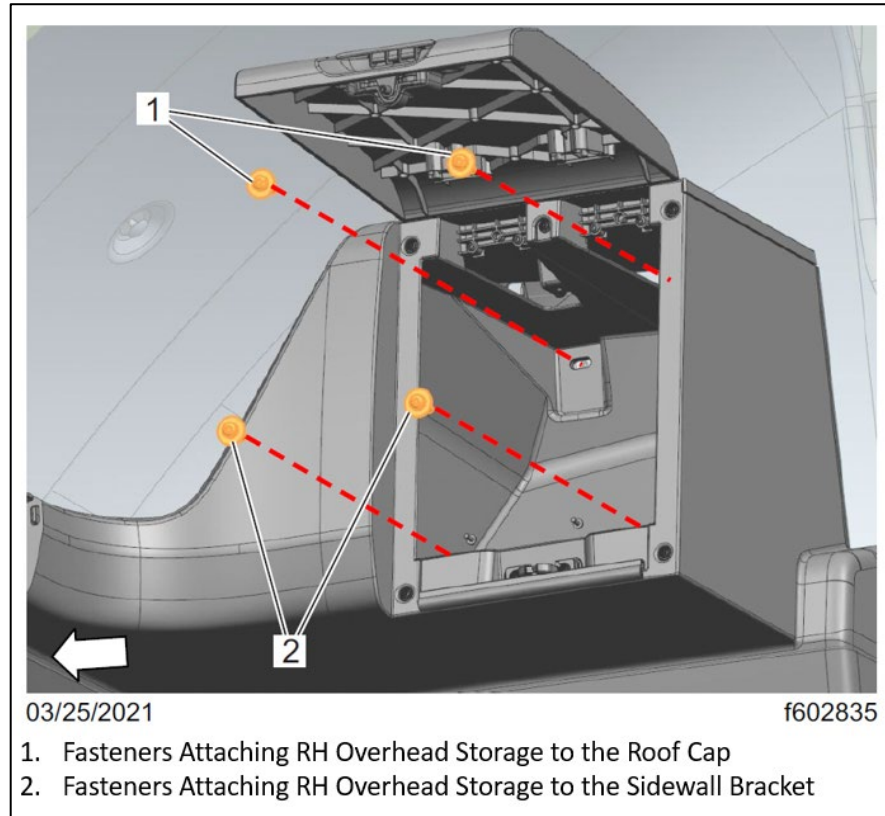

Fig. 54, Fasteners That Attach the RH Overhead Storage Assembly to the Roof Cap and the Sidewall Bracket
12.4. Install the four fasteners that attach the RH side overhead storage assembly to the roof cap, and the sidewall bracket. See Fig. 54. Tighten the fasteners 11 to 13 lbf.ft (14 to 18 N.m).